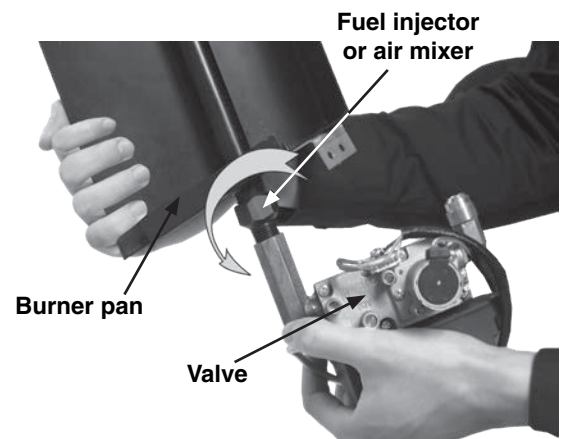

Fig. 7-2 Install valve
2. Install the valve to the fuel injector or air mixer by screwing the pan into the valve (Fig. 7-2). Take care not to damage the attached pilot assembly when rotating the burner pan. Be sure all connections are tight, however do not overtighten to prevent damage to the valve.